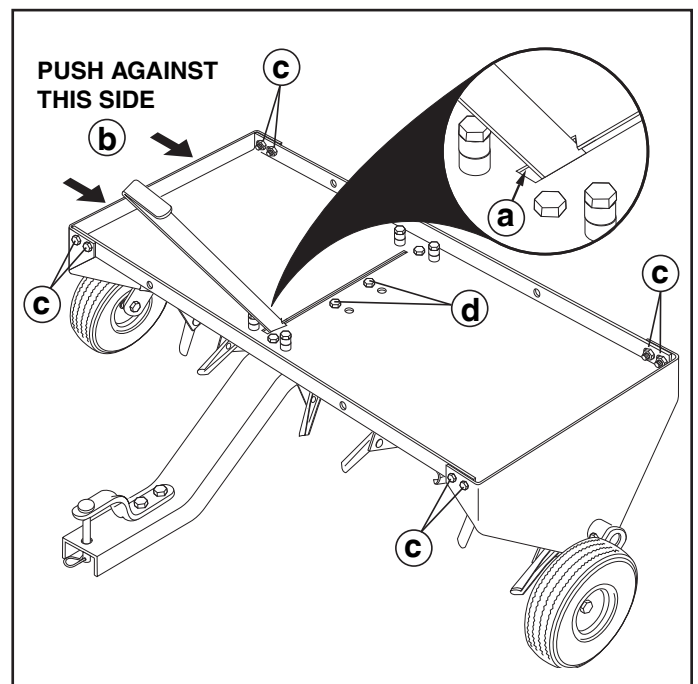

FIGURE 13
20. Perform the following steps in sequence to assure secure locking of the lift handle. Refer to figure 13.